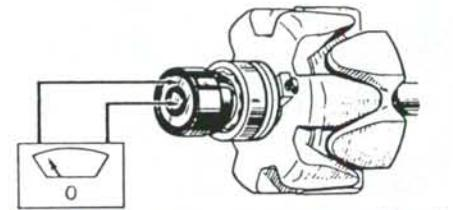
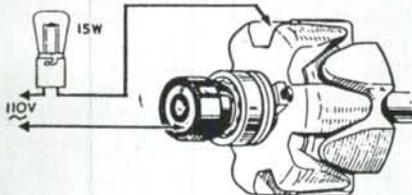

Fig. 129—View showing proper connection of ohmmeter to slip ring for resistance check. Refer to paragraph 164.
Fig. 130—Check rotor winding for short circuit to body using test light as outlined in paragraph 164.
**164. ROTOR WINDING TESTS.** Check rotor winding continuity and resistance simultaneously by connecting a battery operated ohmmeter (Fig. 129) leads to slip rings. Resistance should be 3.3 ohms. Check rotor winding insulation by connecting a 110 volt, 15 watt AC current test light between each slip ring and rotor body. See Fig. 130. If test light comes on, rotor should be renewed.